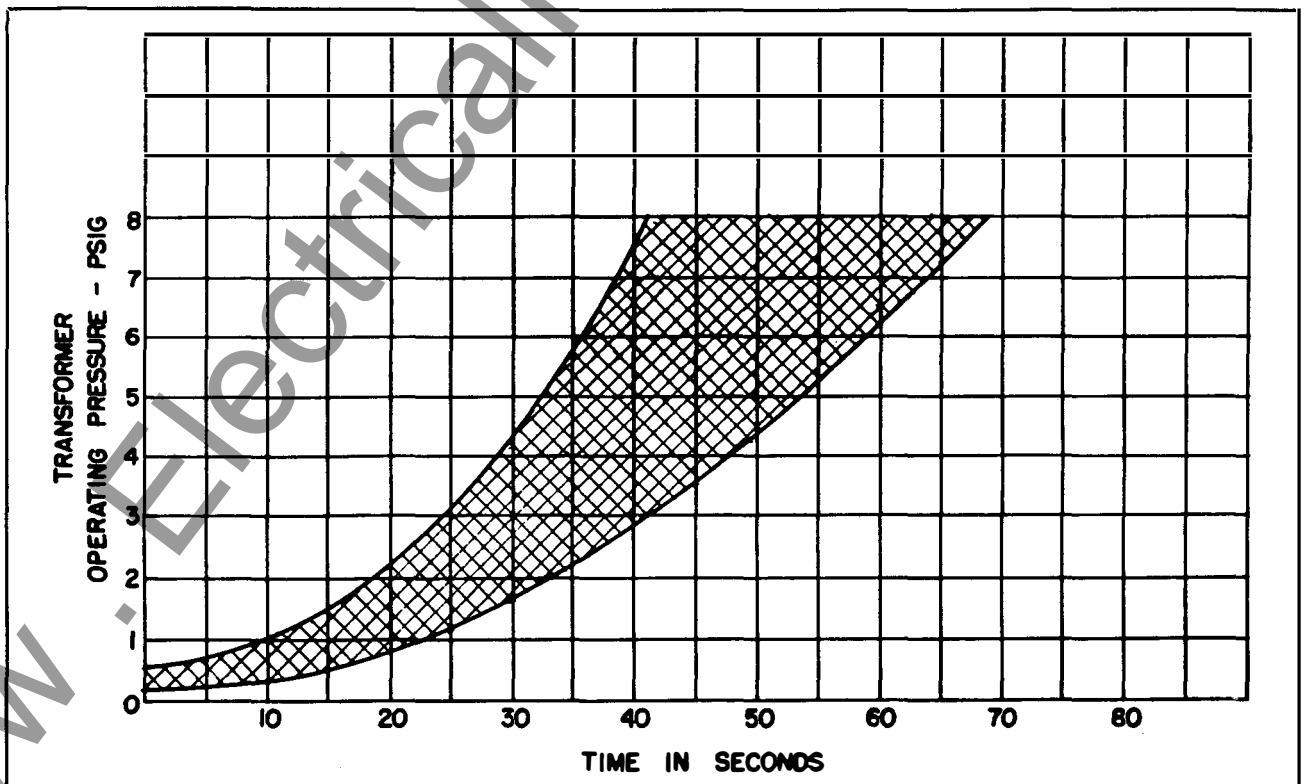

FIG. 4. Time and Pressure Curves
It is desirable to check the operation of the relay when it is installed and every six months or a year afterwards. There is a definite relationship between the transformer gas pressure and the time required to equalize the pressures between the transformer and the relay. This relationship is shown graphically in Fig. 4 and is the basis for checking the operation of the relay. The following test may be made on the relay while the transformer is in service, providing the transformer is operating at a positive tank pressure in excess of $\frac{3}{4}$ pound per square inch.
7. Compare time (6) and transformer pressure (3) to Fig. 4. Any wide deviation of field test points should be referred to the nearest Westinghouse Office.